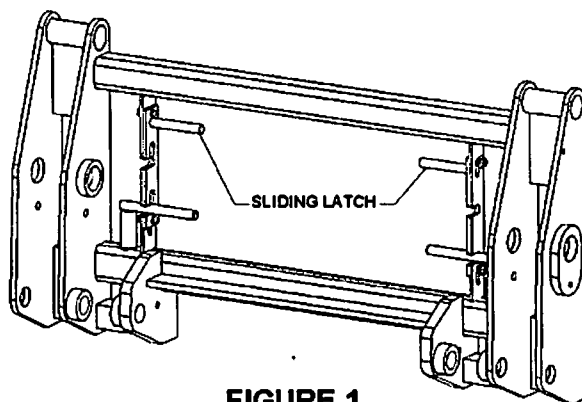

FIGURE 1.
STEP 1 Install the front mount onto the front casting of the tractor. Tighten all bolts that secure the front mount. See Figure 1.
STEP 1 Approach the loader slowly and place the tractor close enough to allow the connection of the hydraulic hoses. Connect the hoses to the tractor so that the loader can be operated. See Figure 1.
STEP 1 *DRIVE ONTO FLAT, LEVEL CONCRETE.* Raise the loader and place the stand legs in the position shown in Figure 1.
1. Raise sliding latches as shown in Figure 1.
3. Rotate QT pins out of the upper notches, lower, and then rotate them into the lower notches on the sliding latches as shown in Figure 1. **NOTE:** If the QT pins do not easily slide thru the lug on the attachment, do not force them. Simply rotate the attachment back and forth slowly with the bucket cylinders of the loader and the QT pins should fall into place. Periodically grease the QT pins and sliding latches.